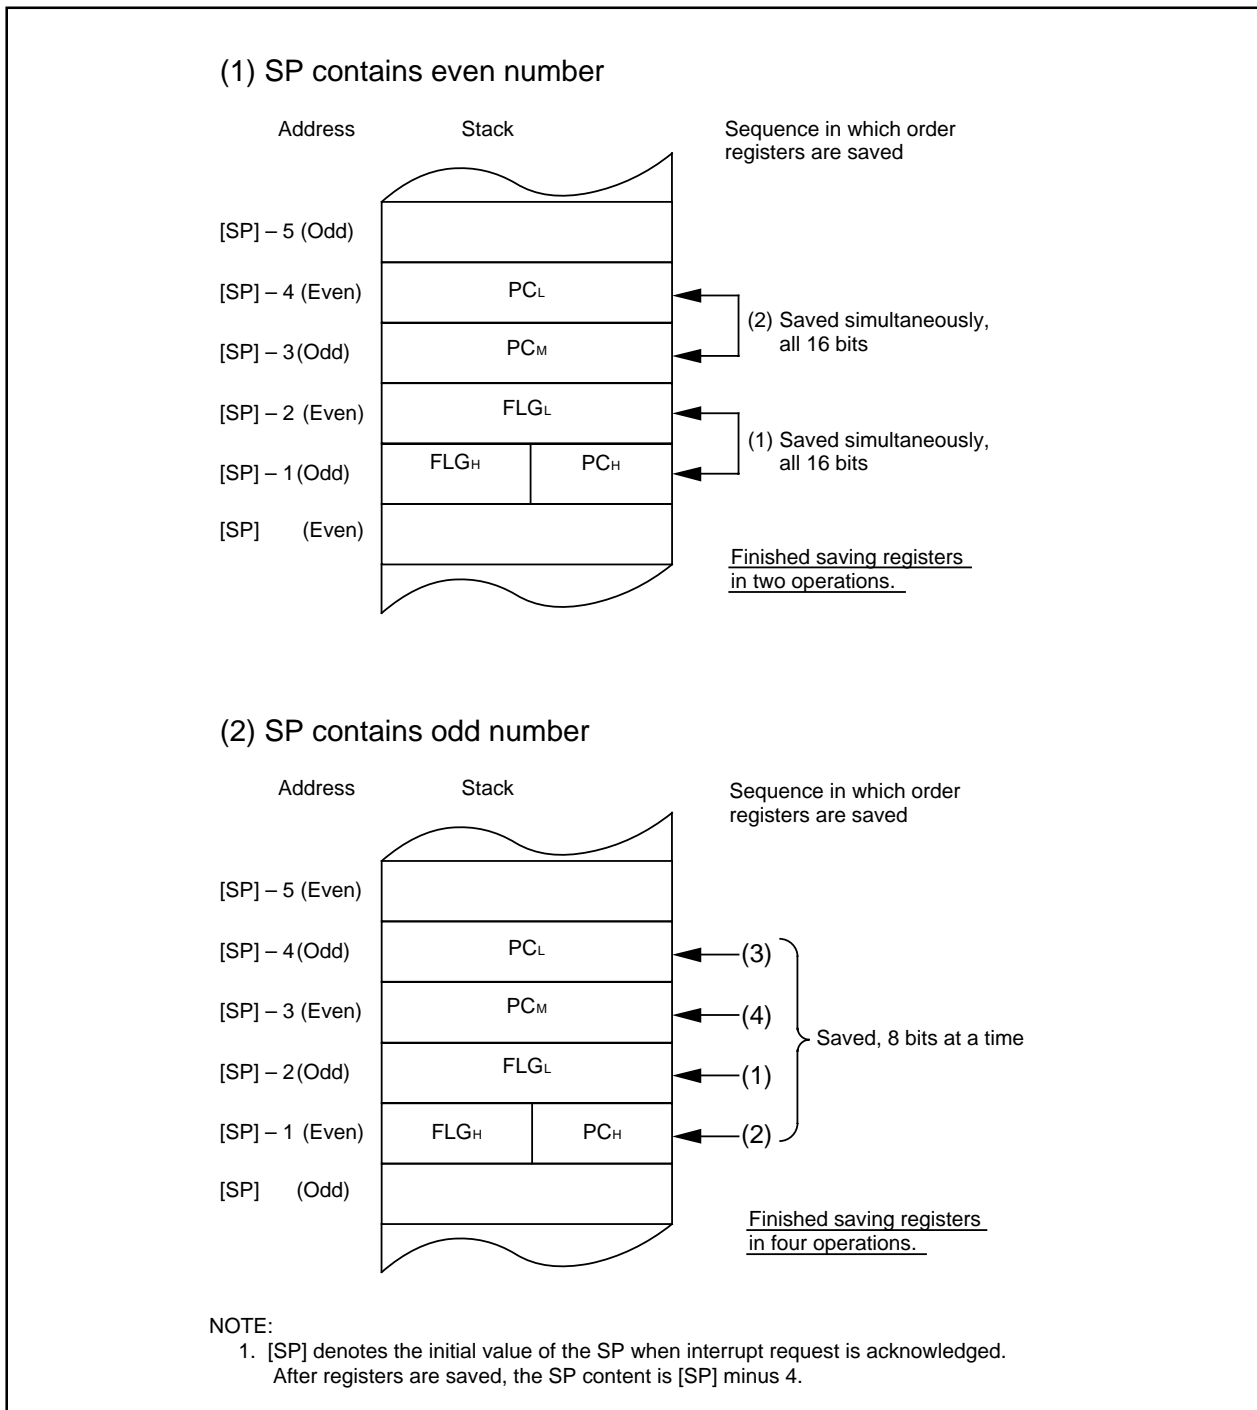

**Figure 9.4.3.1. Stack Status Before and After Acceptance of Interrupt Request**
The operation of saving registers carried out in the interrupt sequence is dependent on whether the SP(1), at the time of acceptance of an interrupt request, is even or odd. If the stack pointer (1) is even, the FLG register and the PC are saved, 16 bits at a time. If odd, they are saved in two steps, 8 bits at a time. **Figure 9.4.3.2** shows the operation of the saving registers.